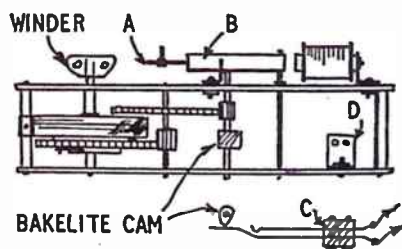

Fig. 2—How the propulsion motor is switched
To do this, a small piece of shaped Bakelite is pushed on the spindle carrying wheel (A). In some models there will be sufficient space for this under the wheel. But in others it will be necessary to take the clockwork motor to pieces, and fit the cam on the spindle inside, as in Fig. 2. The cam can be filed from any hard insulating material, or can easily be made by sawing a small piece off a length of ¼ in. diameter rod, and filing to shape. It is a tight push fit on the spindle.